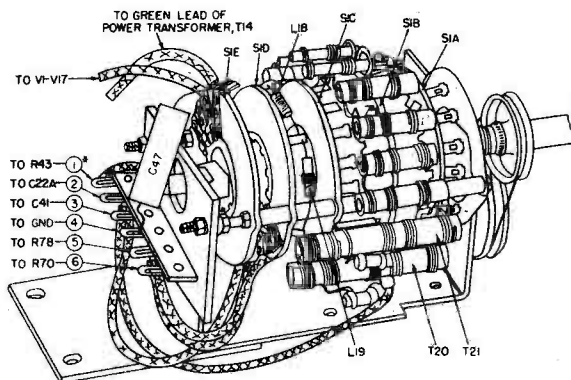

Fig. 12. R-F Coil & Switch Assembly
The Selector Switch should be turned to radio position and a temporary jumper put across filament switch wafer so as to keep the television tube filaments lit while in this radio position. If a television position is used, the i-f curve will be affected by the interaction from the r-f coil in the converter tube grid. **NOTE**—When jumper is used, remove B+ from r-f assembly by disconnecting external lead to terminal (2) of r-f assembly, see Fig. 12.